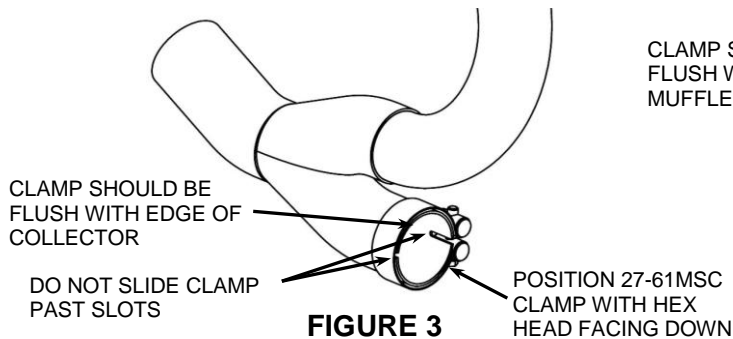

FIGURE 3
9. Position the supplied #27-61 MSC clamp with hex head facing the direction shown in **FIGURE 3** over the inlet of the collector on the rear headpipe.
13. Secure the muffler assembly to the exhaust mount bracket using the (2) supplied 5/16"-18 bolts but **DO NOT TIGHTEN**.
14. Make sure the muffler assembly, front headpipe, and rear headpipe are aligned properly and tighten in the following order; headpipe flanges to the cylinders (slowly tightening opposing nuts), front headpipe clamp, muffler clamp, and finally the muffler assembly to the exhaust mount. (NOTE: The muffler clamp and headpipe clamp should be flush with the end of the inlets when tightened. See **FIGURE 3 & 4**. If the clamps are slid past the slots on the inlets the clamps will not tighten properly).